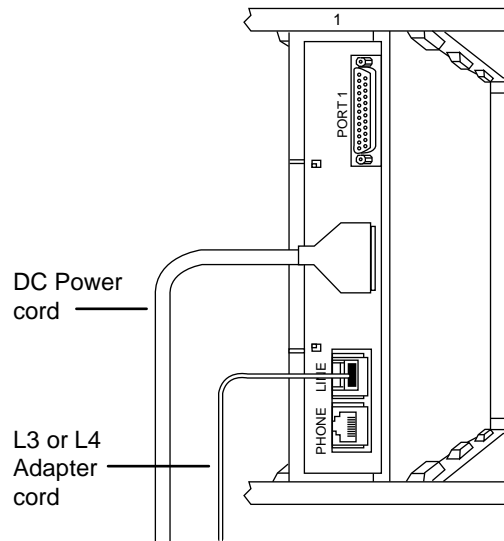

FIGURE 8-23. Connecting the Modules with the Digital Lines (without TRAs)
- If you are using the L3 or L4 adapter to connect the modules with the digital lines, connect the numbered loose ends of the adapter to the jack marked **LINE** on the corresponding data modules. See Figure 8-23.